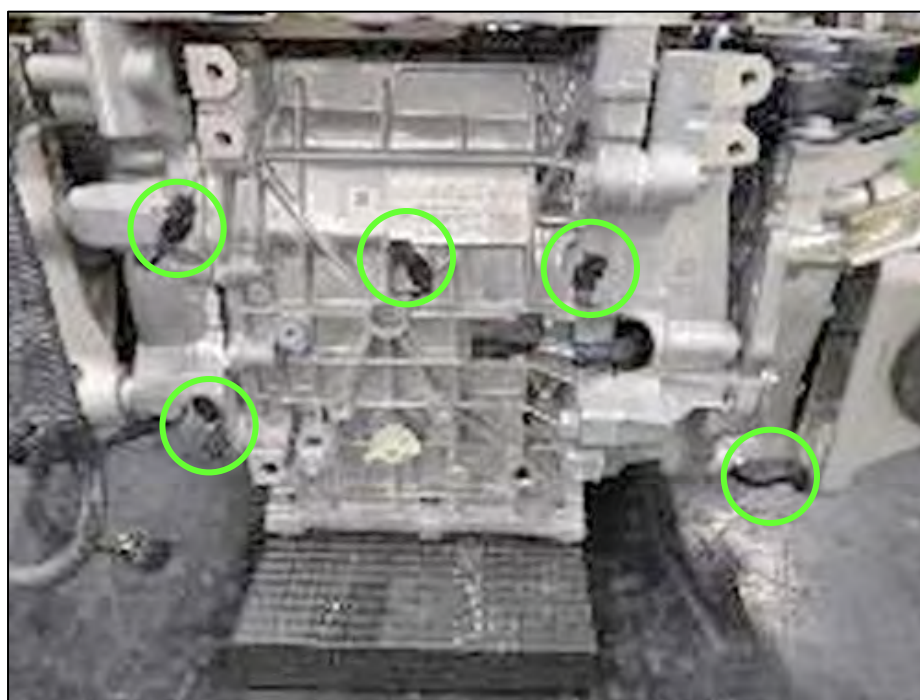
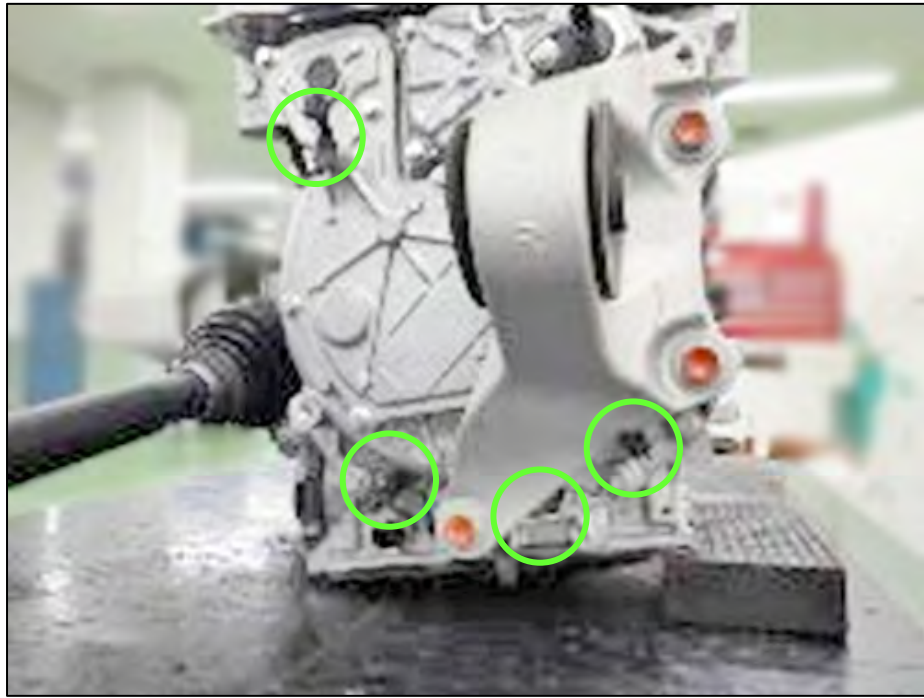

Figure 87
Figure 88
110. Remove the nine (9) unlocked wiring harness clamps shown in Figure 87, and Figure 88 on page 47.